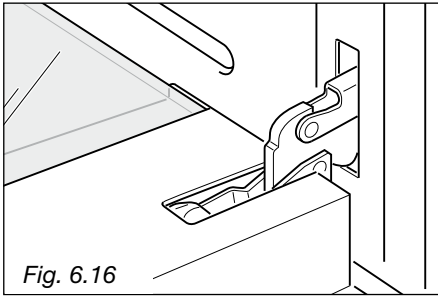

Fig. 6.16
- Open the door to the full extent (fig. 6.16).